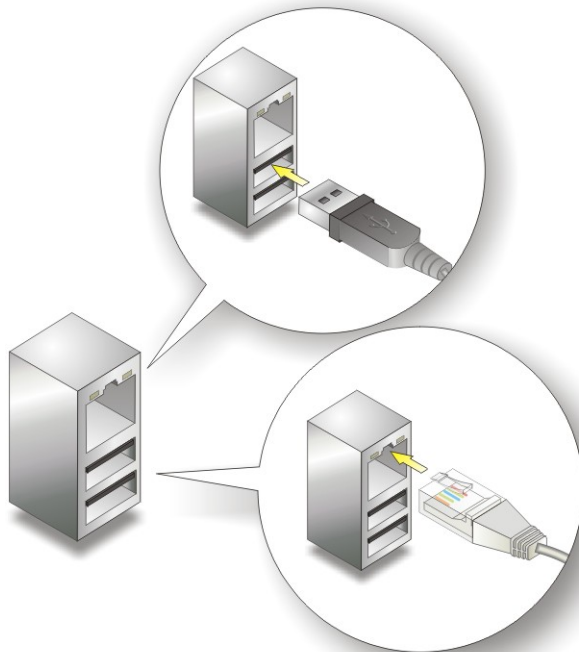

Figure 4-17: LAN Connection
Step 3: Insert the LAN cable RJ-45 connector. Once aligned, gently insert the LAN cable RJ-45 connector into the onboard RJ-45 connector. See **Figure 4-17**.
Step 4: Insert a USB Series "A" plug. Insert the USB Series "A" plug of a device into the USB Series "A" receptacle on the external peripheral interface. See **Figure 4-17**.